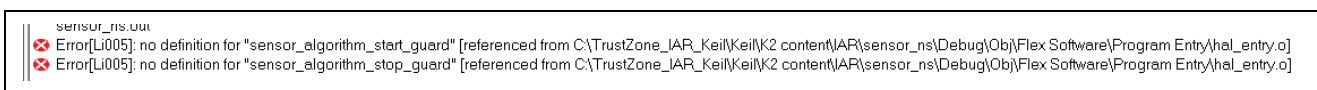

Figure 72. Potential Error Message
10. Return to the EWARM IDE and check if there is a `\Objects` folder under `\Flex_Software` and `secure.o` exists in the `\Objects` folder. If yes, the non-secure project will be compiled with no issue. If not, then the non-secure project will need to be compiled twice. The first compile will issue an error message similar to Figure 72. The second compile process will succeed. This is because there is a timing issue between EWARM and RSAC operation.